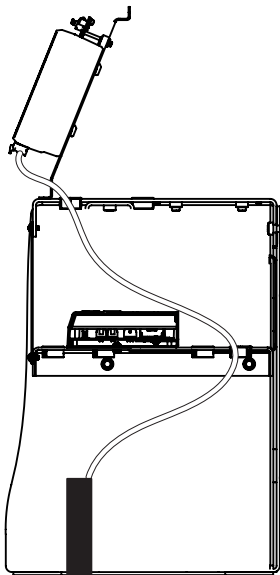

Figure 59. Route Relay Wires
2. Route the relay wires to the SmartCNX Controller (Figure 59).